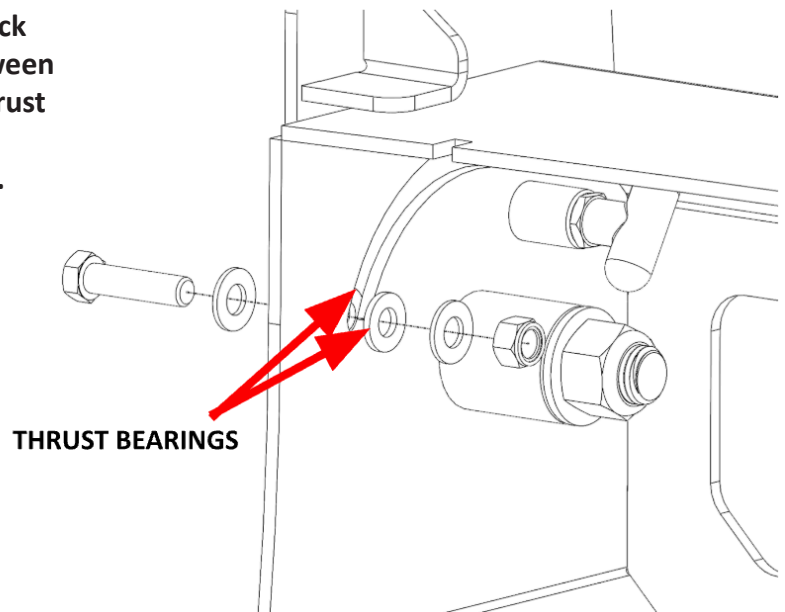

Figure 10
12. Install the 1/2" yellow zinc pivot limiting bolt along with the flat washers, thrust bearing and lock nuts. NOTE: place one of the thrust bearings between the tube assembly and the winch tray and one thrust bearings on the inside of the winch tray. Use a ¾" wrench and socket to tighten the bolt to 10-15lbs. Figure 10.